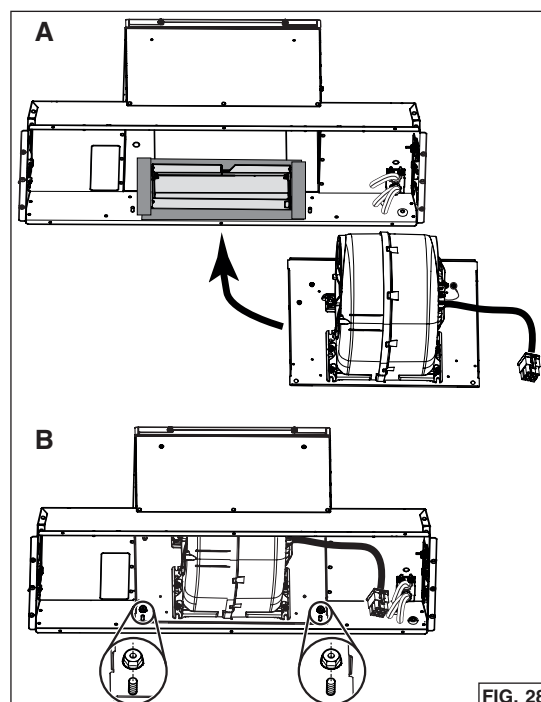

FIG. 28
- Insert the blower with its support plate inside the unit, where the back plate was initially (A). Attach to the unit using 2 nuts previously removed in step 7 on page 12 (B) (FIG. 28).